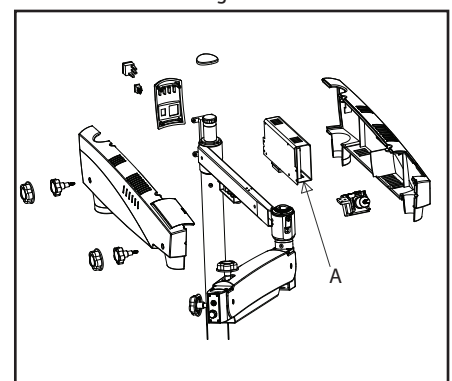

Fig 8
- B. Detach the fiber optic cable and replace the illumination assembly (see A in Fig. 8) with a new assembly.